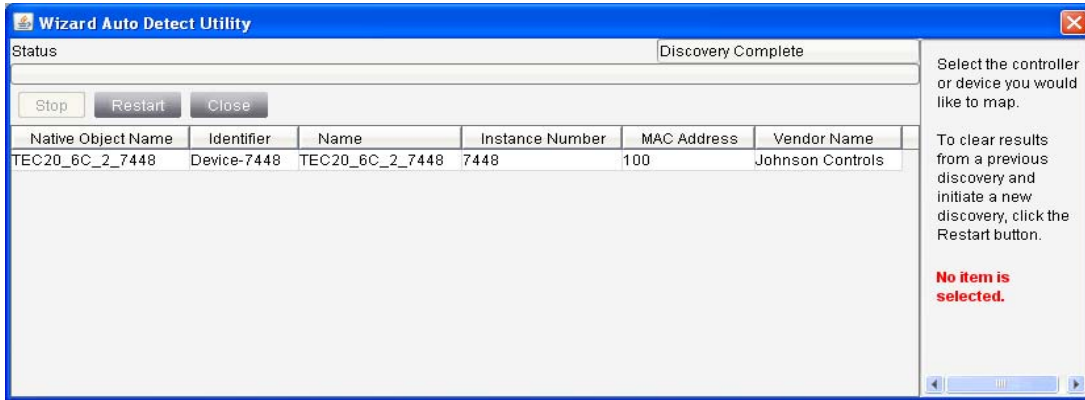

Figure 43: Wizard Auto Detect Utility
5. The **Wizard Auto Detect Utility** screen appears (Figure 43). The supervisory controller discovers all devices that are correctly configured on its MS/TP Trunk. To continue, select the device (TEC20 Coordinator) you want to integrate.